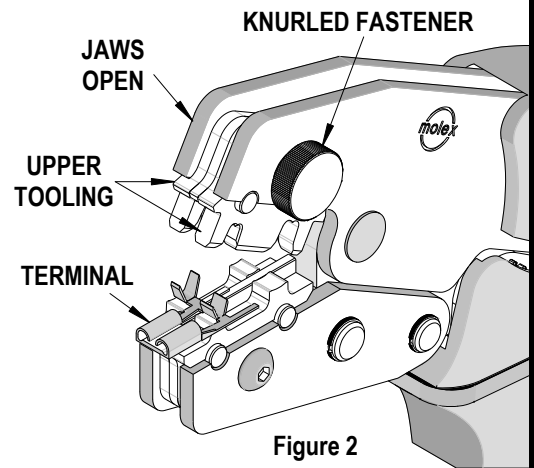

Figure 2
2. Before attempting to crimp any terminals, make sure all the upper tooling is correctly placed into the upper jaw. The desired nest being used for the proper wire size should be in the forward position, (The marking on the upper tooling "A" for 0.8mm² or "B" for 0.5mm²). This is done by removing the knurled fastener that holds the upper tooling in place and then rotating it 180° to the correct position. Then, re-installing the fastener. See Figure 2.